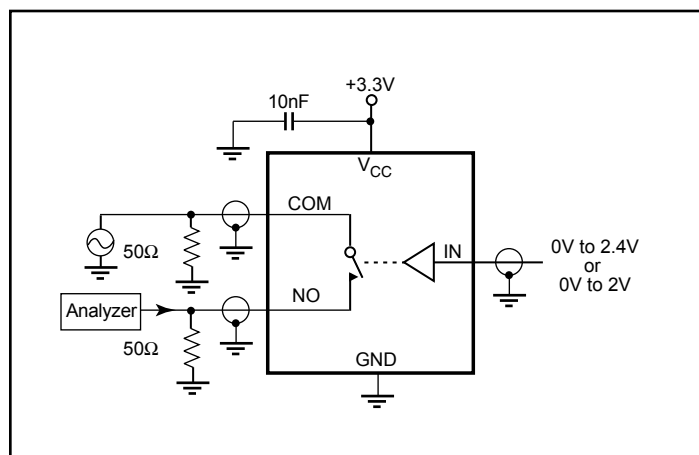

Figure 3. Off Isolation
7. Off Isolation = $20\log_{10} [V_{COM} / (V_{NO} \text{ or } V_{NC})]$. See Figure 3.